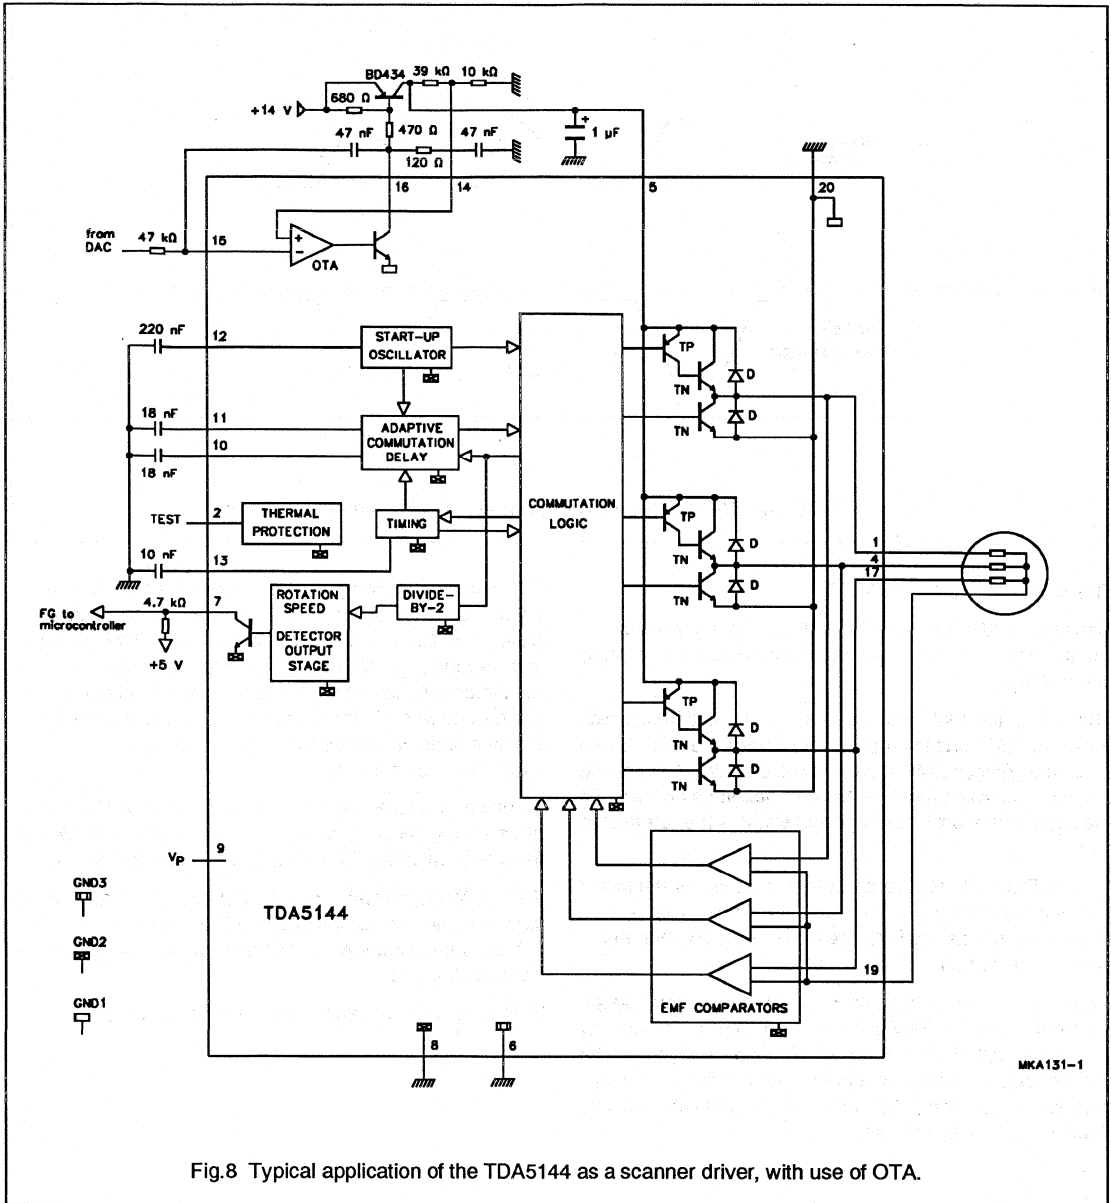

Fig.8 Typical application of the TDA5144 as a scanner driver, with use of OTA.
**Introduction (see Fig.8)**
For the analog control an external transistor is required. The OTA can supply the base current for this transistor and act as a control amplifier (see Fig.8).